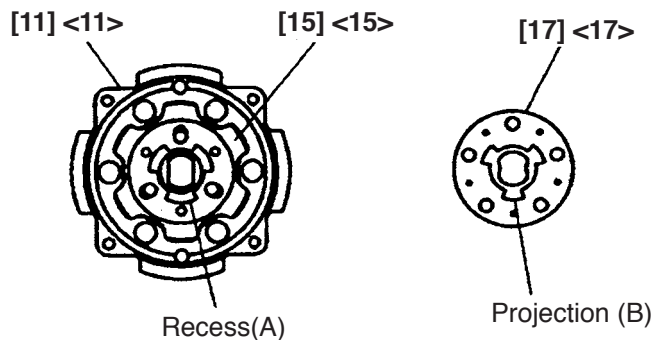

Fig. 10
- ③ Mount the Carrier [17] <17> so that recess (A) on the Lock Ring [15] <15> is aligned with projection (B) on the Carrier [17] <17> (be careful of the direction). Then make sure that the flat plane of the spindle faces the flat plane of the Carrier [17] <17>. If mounted in wrong direction, the flat plane of the spindle may be stopped at the position about 2 mm lower than the flat plane of the Carrier [17] <17> (see Figs. 10 and 11).